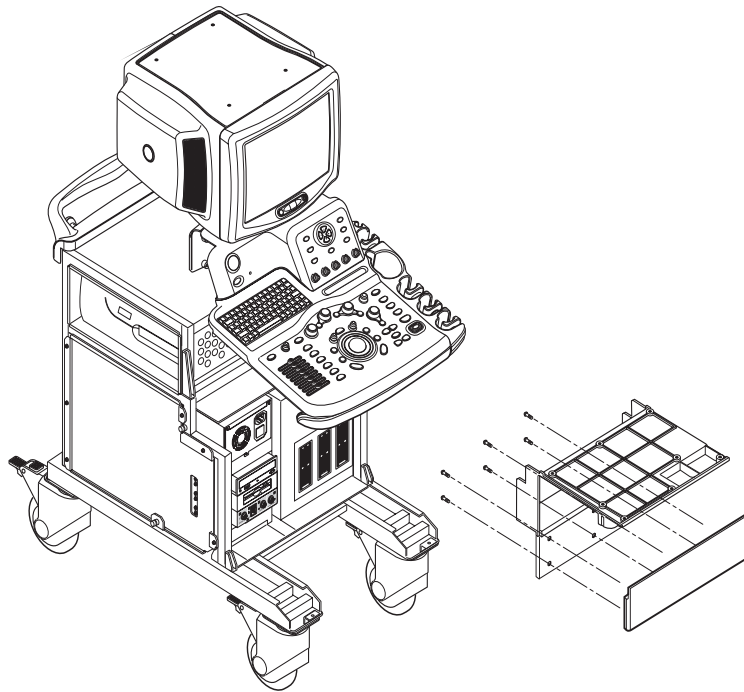

Figure 8-60 Remove the OP Curtain Cover
9.) Remove the OP Curtain Cover. Refer to Figure 8-60.